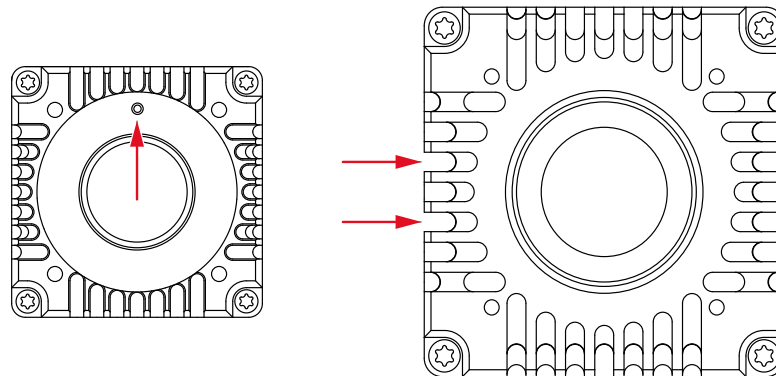

Figure 65: Position of safety screws on mount adapters: Goldeye G/CL (left) and Goldeye G/CL Cool (right)
Mount adapters for Goldeye cameras are secured with locking screws, see Figure 65. These locking screws must be loosened before removing mount adapters.
- Loosen the locking screw (2, shown from back of adapter) on the outside of the mount adapter. See Figure 65 on page 241 for the position of the locking screws.
2. Unscrew the adapter (1) from the camera.
- Loosen the locking screw (2) on the outside of the mount adapter. See Figure 65 on page 241 for the position of the locking screws.